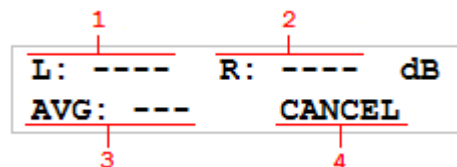

Fig. 3.5 Measurement screen
To initiate the measurement process place the screen cursor over the START option and press the ENTER button. The following screen (Fig. 3.5) will be displayed and the measurement sequence will start. The 2150 XDM will start pulsing first the left channel and then the right channel. Field (1) will display the left channel and field (2) will display the right channel microphone preamplifier gain. Field (3) displays the current number of averaged measurements.